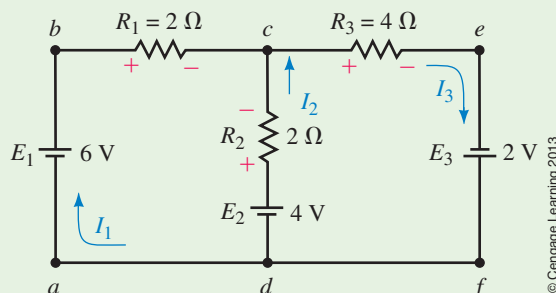

FIGURE 8-18
Find the current in each branch in the circuit of Figure 8-18.
Step 1: Assign currents as shown in Figure 8-18.